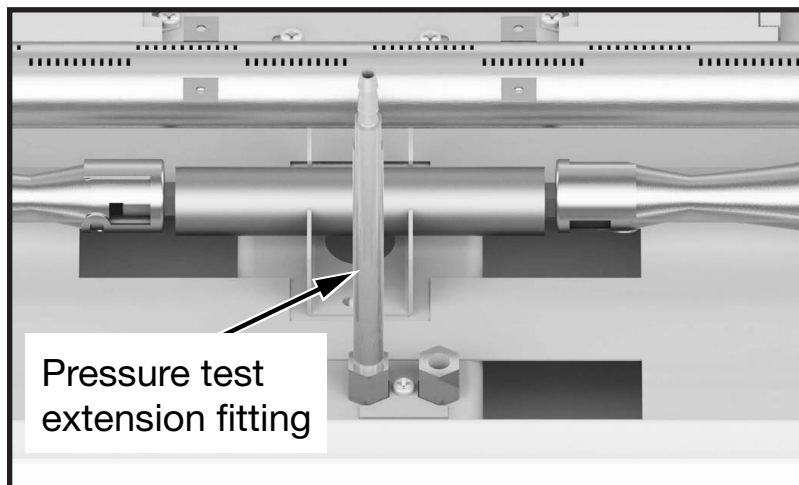

Figure 54: Pressure test extension.
2. Thread the extension test fitting into the open port (Figure 54).